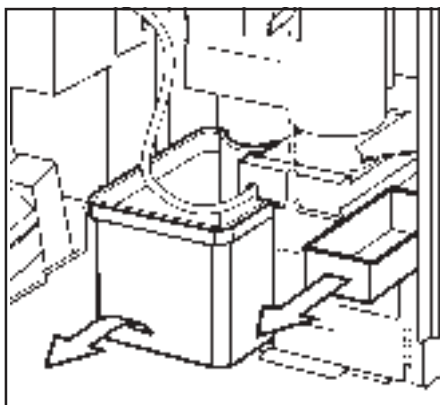

Fig.10: Removing the waste bucket
2. Remove and clean the waste bucket and the wiper tray (see fig. 10).